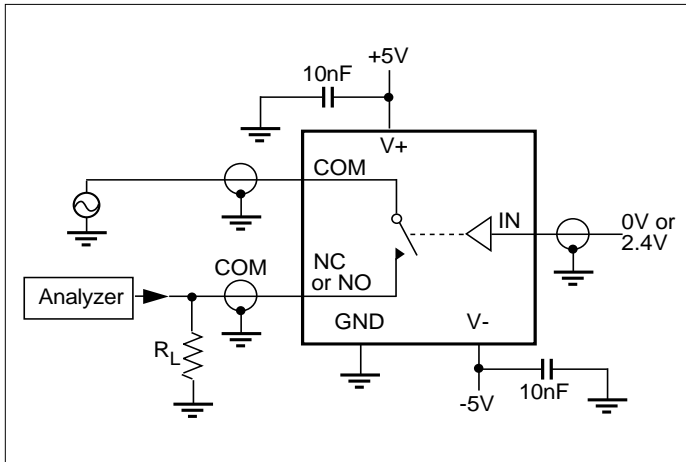

Figure 5. Off Isolation
7. Off Isolation = $20 \log_{10} [V_{COM} / (V_{NO} \text{ or } V_{NO})]$. See figure 5.